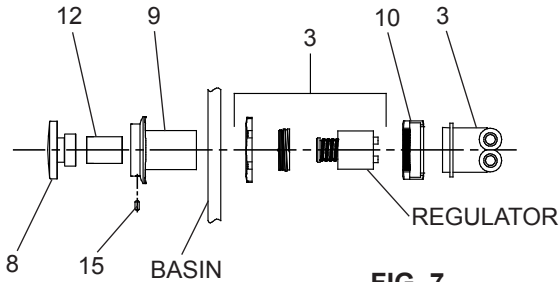

FIG. 7
7. **Check stream height from bubbler.** Stream height is factory set at 45-50 PSI. If supply pressure varies greatly from this, adjust the screw on regulator item 3 (Fig 7) by using a small screwdriver through the small hole in the push button item 8 (See Fig 7, Page 4). Clockwise adjustment will raise stream height and counter-clockwise adjustment will lower stream height. For best adjustment stream height should be approximately 1" (25mm) above the bubbler guard.